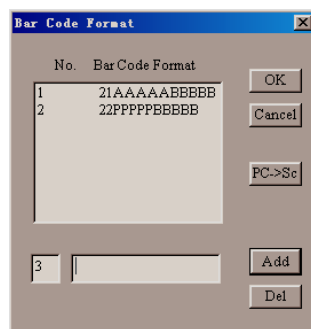

Fig. 6-18
- ☞ Here will show barcode format dialog box as fig. 6-18.